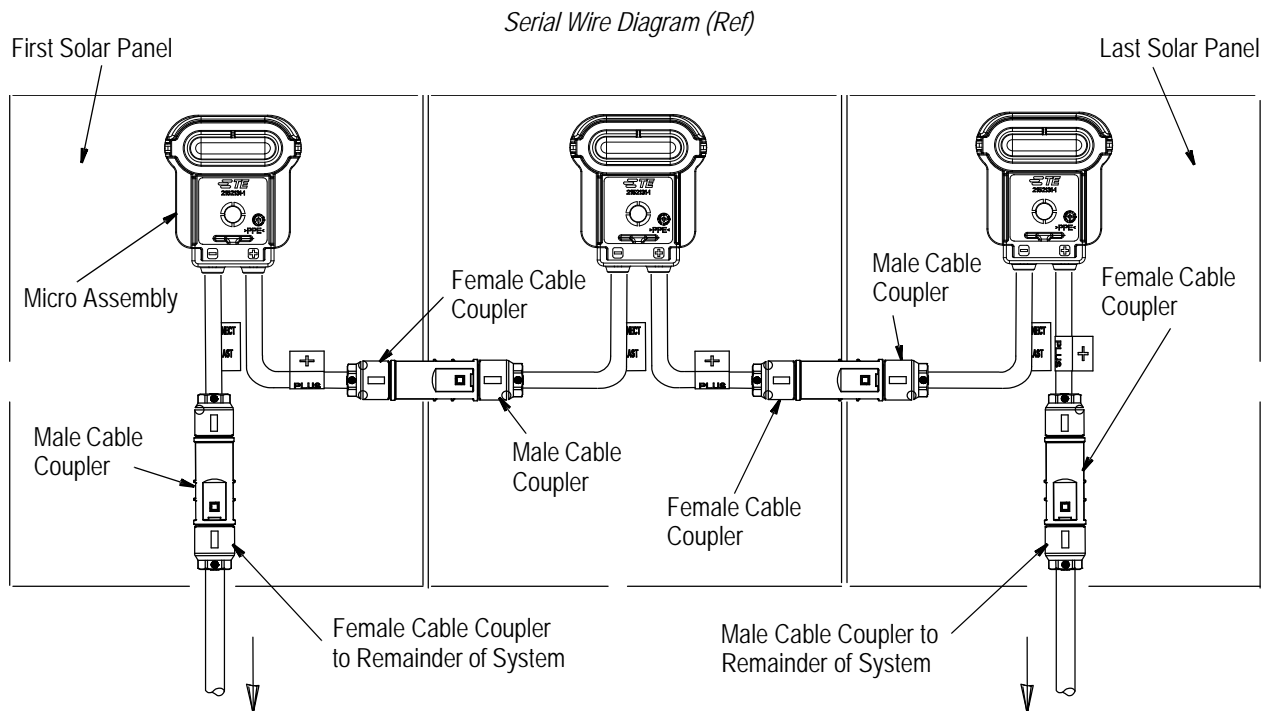

Figure 4
11. Connect the solar panels using the micro assemblies by plugging the female cable couplers into the male cable couplers. There should be an audible “click” when the couplers are fully mated. Make sure to observe the polarity symbol of the female cable coupler when making connections. **DO NOT pull or twist the cables.** Connect the first solar panel and last solar panel to the remainder of the system. Refer to Figure 4.